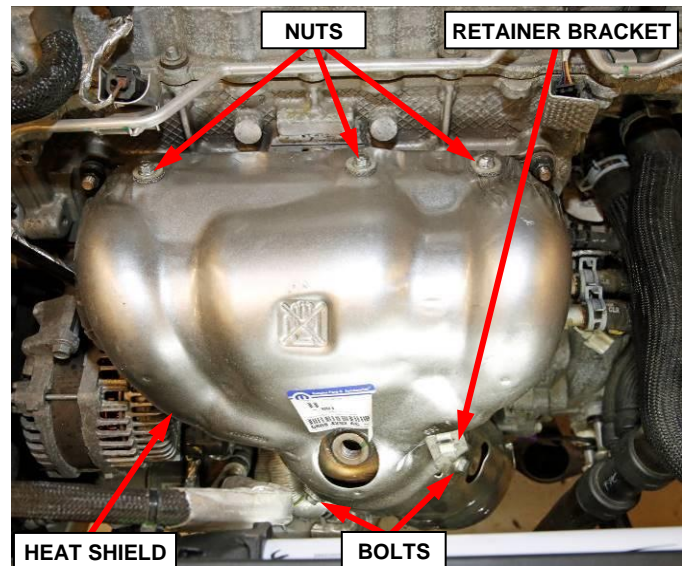

Figure 24 – Maniverter Heat Shield
35. Install the **NEW** upper heat shield to the maniverter (Figure 24).
36. If applicable, position the wire harness retainer to the heat shield (Figure 24).
37. Install the two **NEW** heat shield bolts. Tighten the heat shield bolts to 12 N·m (8 ft. lbs.) (105 in. lbs.) (Figure 24).
38. Install the three **NEW** heat shield nuts. Tighten the heat shield nuts to 12 N·m (8 ft. lbs.) (105 in. lbs.) (Figure 24).